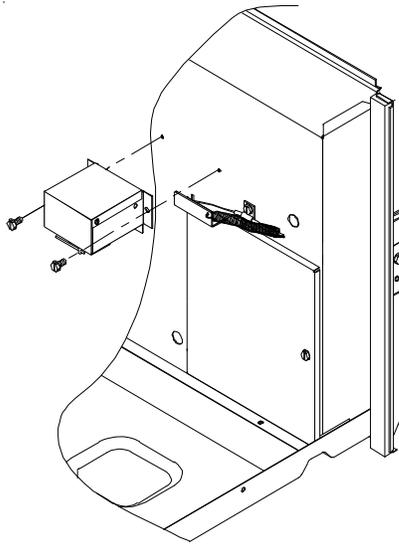

Figure 7
11. Mount the door motor housing with two #8 screws to the provided holes in the partition panel. Ensure the cross pin in the door shaft is rotated around so that it touches the rubber bumper underneath the door motor housing (Figure 7).